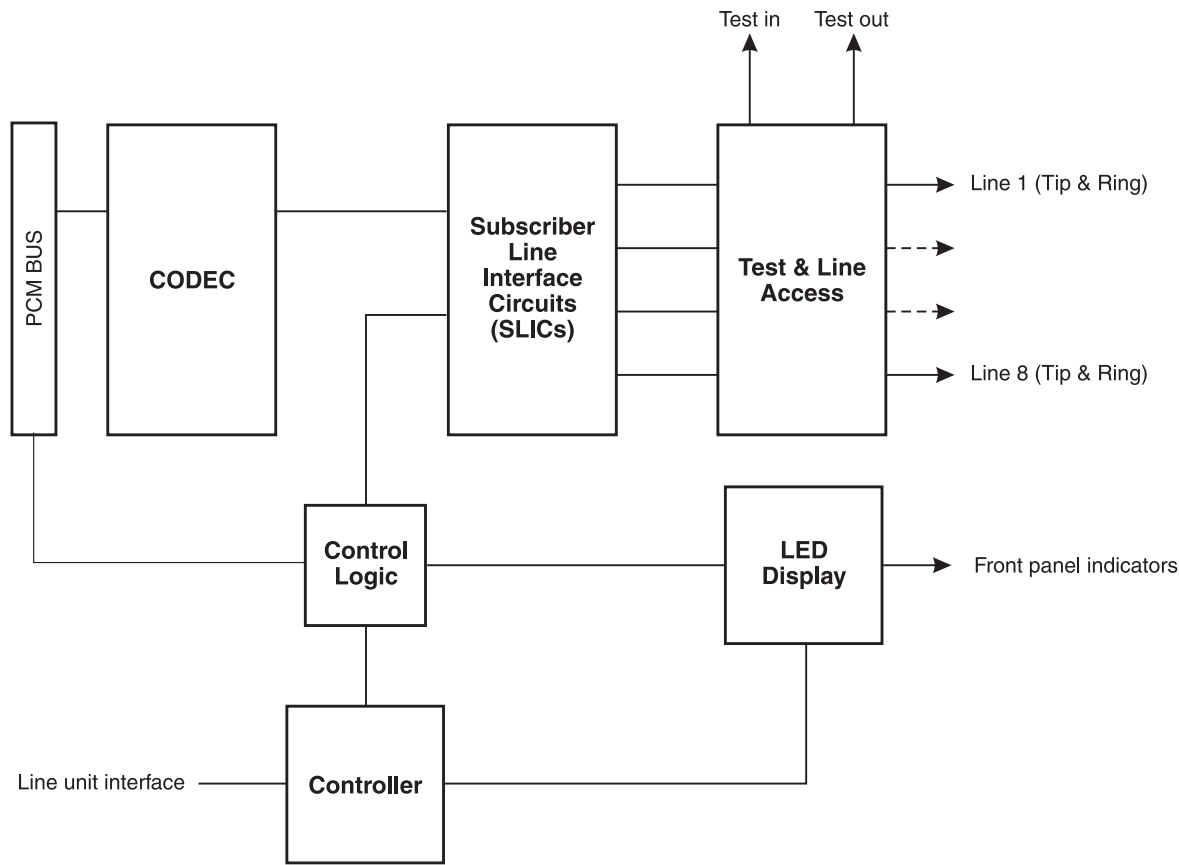

Figure 3. FLC-704 Block Diagram
- 5.2** A block diagram of the FLC-704 Channel Unit is shown in Figure 3. One 8-Channel COT Channel Unit supports eight POTS interfaces.